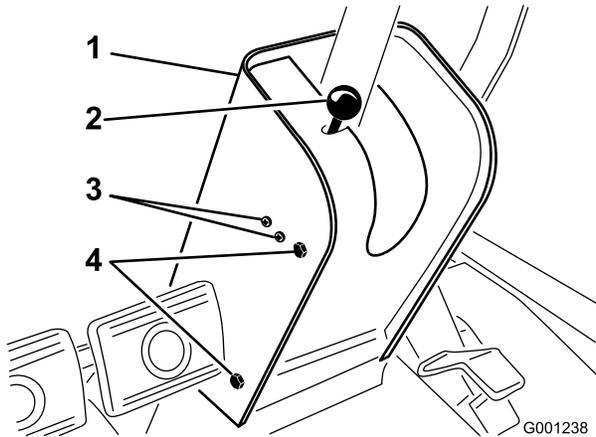

Figure 61
2. Remove the knob from parking brake rod and screws from the steering tower cover (Figure 61).
4. Loosen the screws and nuts securing the parking brake switch to the left side of the steering tower (Figure 61).